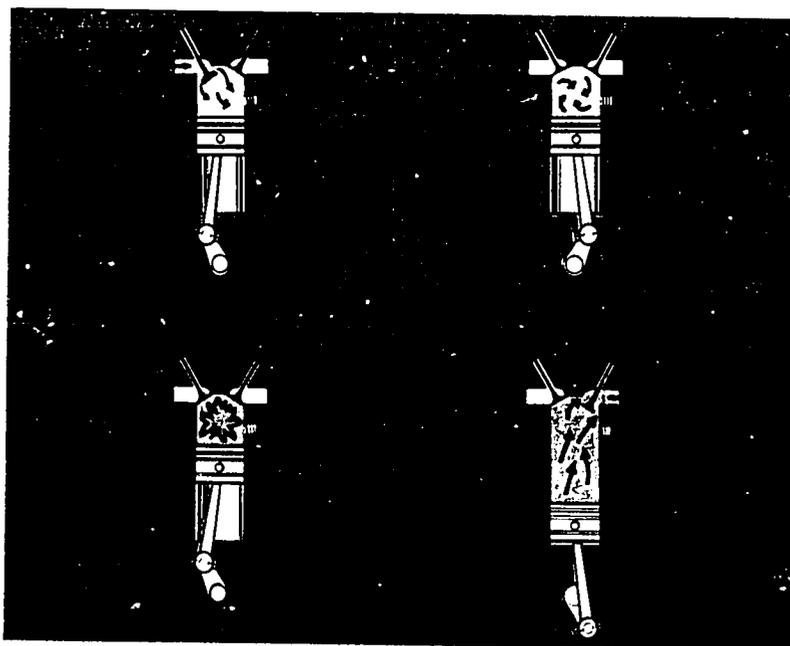

Figure 2. Four-stroke Engine Cycle.
The five steps in each cycle are: (1) intake, (2) compression, (3) ignition, (4) power, and (5) exhaust. The third step, ignition, occurs just before the end of the compression step and is thus considered as a part of the piston's second stroke. (Fig. 2)